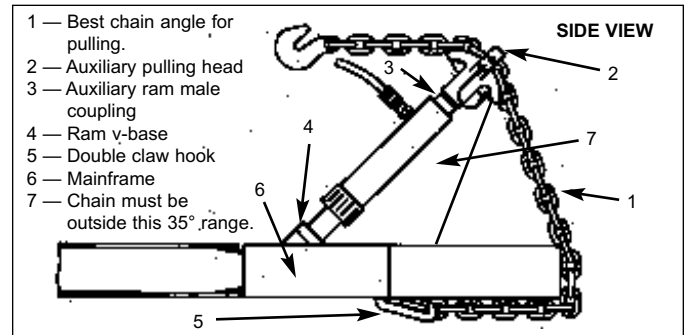

Figure 8
2. Secure v-base attachment, male coupling and auxiliary pulling head to 6 inch (150 mm) auxiliary ram. (See Figure 8.)
1. To avoid damage to auxiliary ram from side loading, assemble components as shown in Figure 8. Auxiliary pulling head must be positioned inward from outer edge of mainframe.
CAUTION: Always attach V-base to piston end of ram. (See Figures 8 and 9.) DO NOT add extension tubing to piston end of ram.